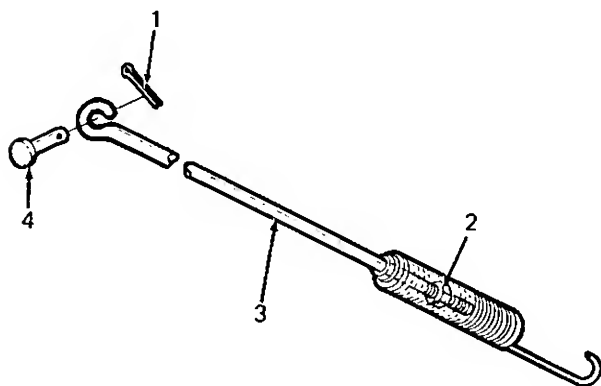

Figure 20.
4. If there is no more adjustment left at the two nuts, tighten the hex nut on the end of the brake rod, under the spring. (See Figure 20.) Remove the hairpin cotter and clevis pin from the other end of the brake rod to disconnect it, and tighten the nut.